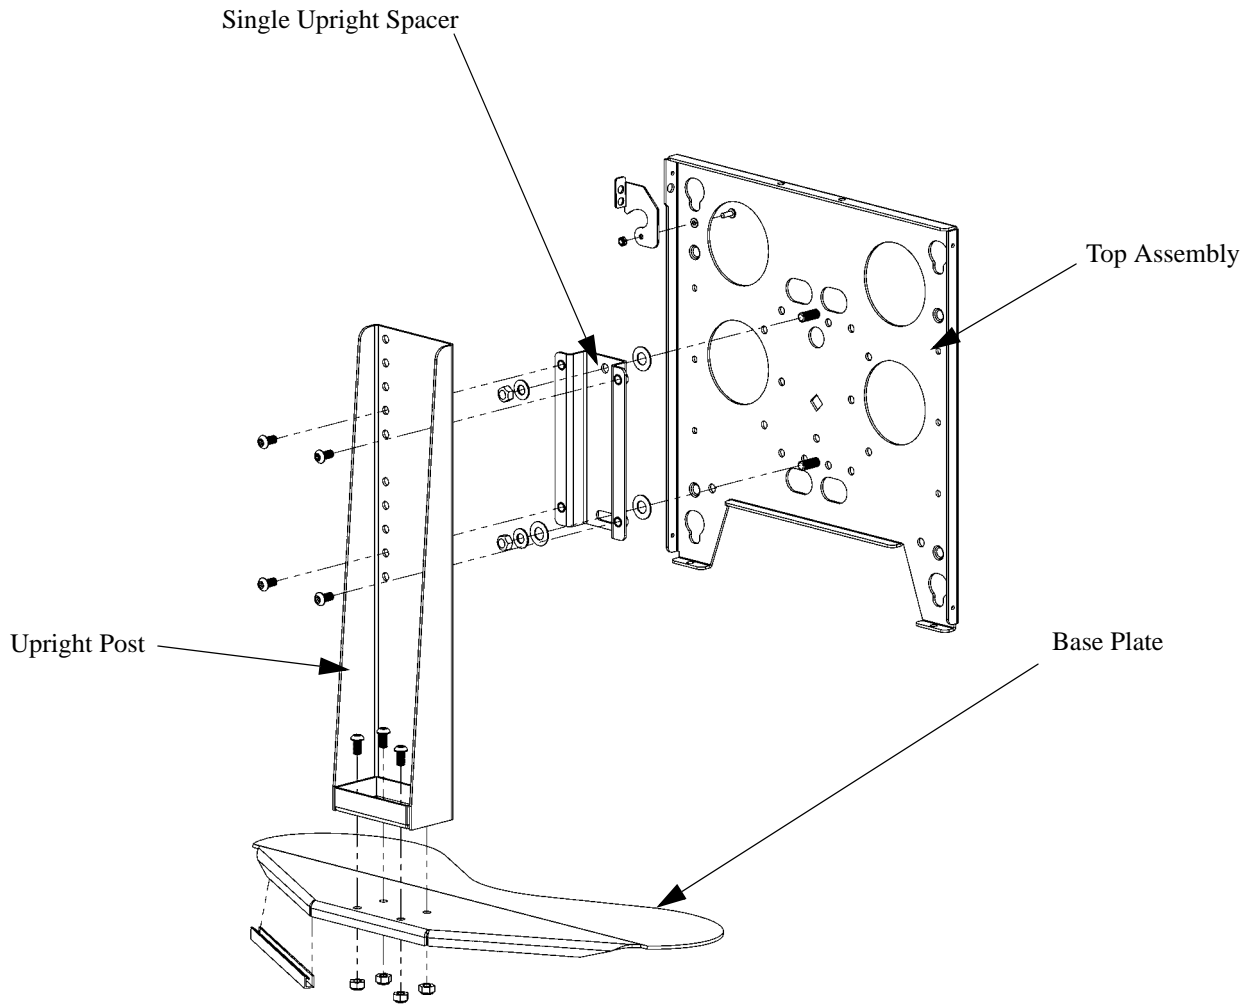

FIGURE 1. PARTS
2. Lay out components to ensure you have all the required parts before proceeding (see Figure 1):